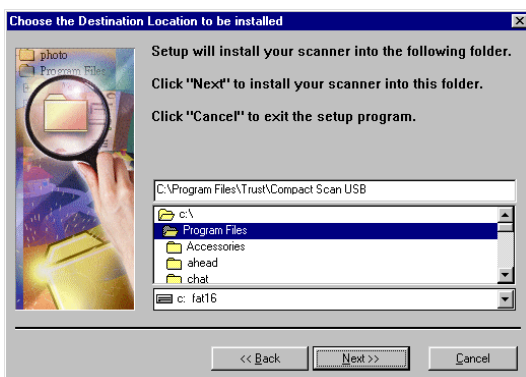

Figure 4: Choosing the installation directory
6. The following window contains "Welcome" information. Click on 'Next' to continue. Figure 4 will appear.